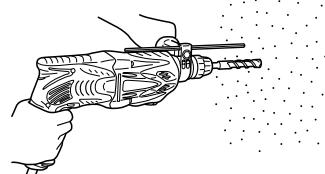

Fig. 8
- (1) Mount the drill bit.
- (2) Pull the trigger switch after applying the drill bit tip to the drilling position (Fig. 8)
- (3) Pushing the rotary hammer forcibly is not necessary at all. Pushing slightly so that drill dust comes out gradually is just sufficient.
- When the drill bit touches an iron reinforcing rod, the bit will stop immediately and the rotary hammer will react to revolve. Therefore please grip the side handle and handle tightly as shown in Fig. 8.